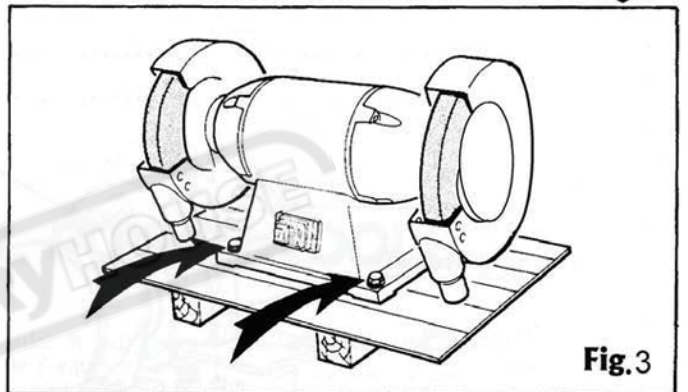

Fig. 3
- 4 Machine base was fixed to wooden pallet. Loosen these 4 fixing bolts as figure 3 before it can be moved.